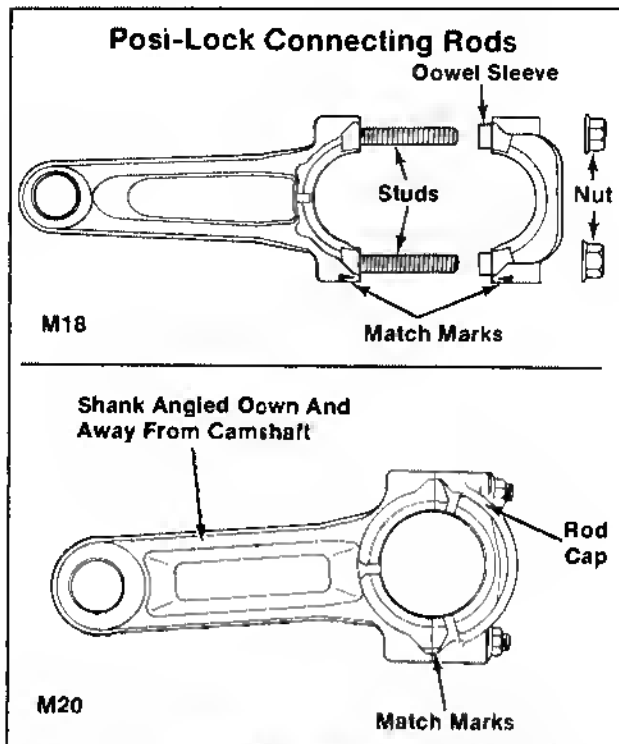

Figure 11-10. Installing Posi-Lock Connecting Rods.
- **On Model M20:** Install the connecting rods with the shanks angled down and away from the camshaft (top of crankcase). Refer to Figure 11-10.